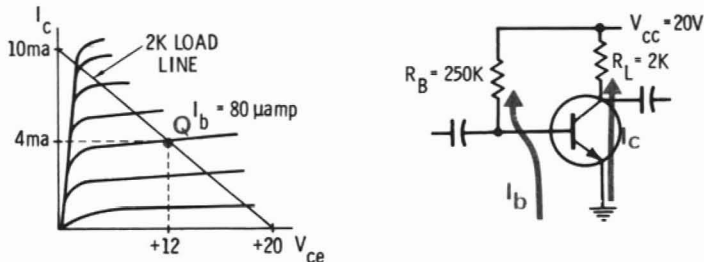

Fig. 4-5. Simple bias arrangement.
Biasing-circuits are used to achieve the desired operating point. Essentially then, biasing involves the selection of a circuit that will provide a desired base current. The desired base current, in turn, has been selected by the choice of operating point. Fig. 4-5 will help to make this clear.
- Q4-8. From Fig. 4-5 the  $\beta$  of the transistor at the operating point shown is (a) 320 (b) 240 (c) 50 (d) 40.